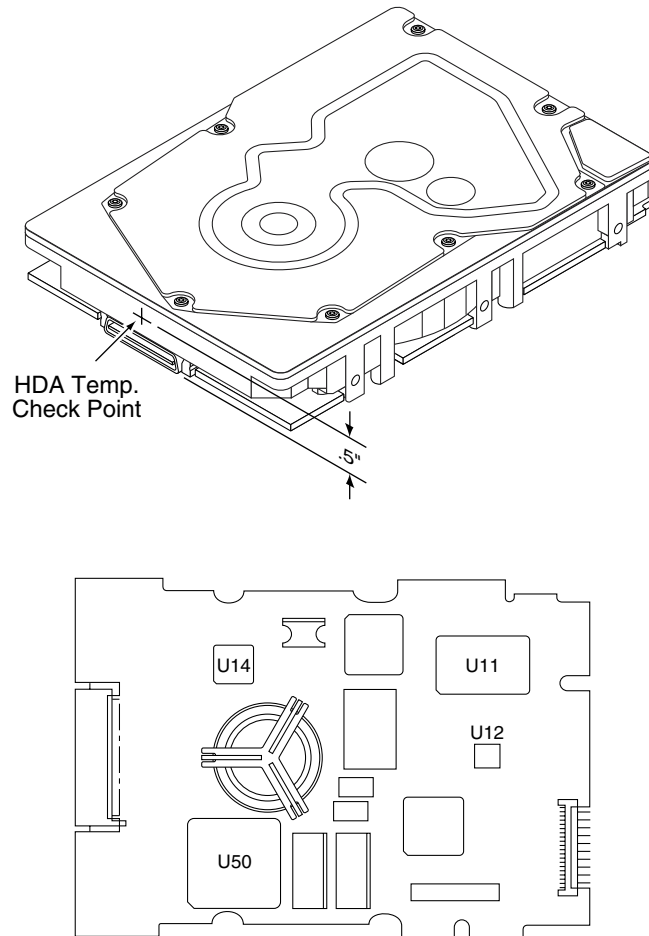

Figure 6. Locations of PCBA components listed in Table 3
- [2] Measure HDA temp at point labeled “HDA” on Figure 6.